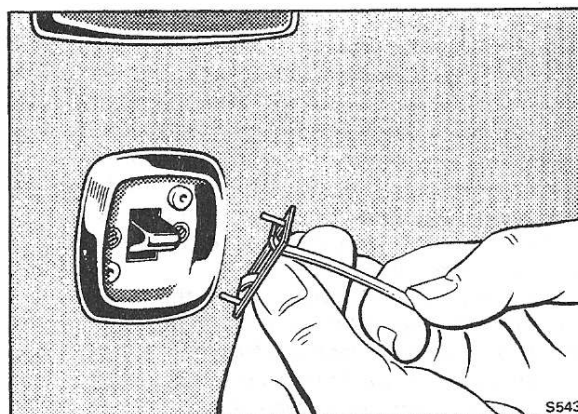

Fig. S6 Removing the escutcheon cover from an electric window lift switch
4. Remove the escutcheon covers from the window lift switch(es) and the window lift master switch on left-hand drive cars using a tool similar to the one shown in Figure S6. Insert the feet of the tool behind the cover and remove with a firm pull.
2. Remove the escutcheon covers from the window lift switch(es) using a tool similar to the one shown in Figure S6. Insert the feet of the tool behind the cover and remove with a firm pull.